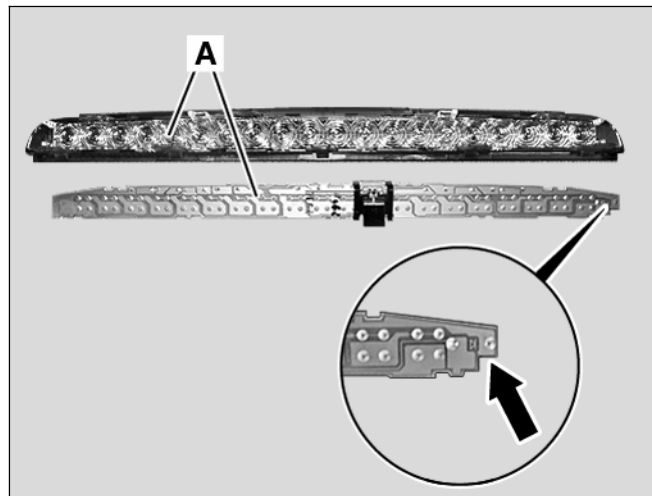

Figure 2
9. Clip the new diode set into the old housing (A, Figure 2) using the punch-out corner (Arrow, Figure 2).